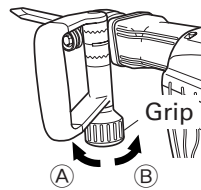

Fig. 4
- (1) Loosen the handle by turning the grip in the direction of **A** as shown in Fig. 4.